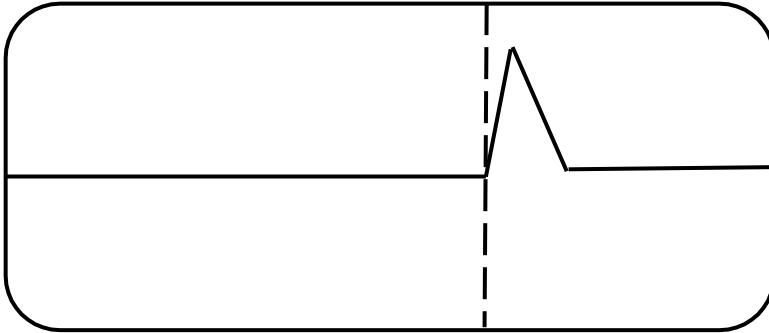

Fig. 2
- (1) Opens are caused when one or both. Conductors of a pair are disconnected or broken. The reflection is upward polarity pulse, Fig.2
- (2) Open sheaths are caused by a break in the cable sheath. To locate such faults, connect the line terminals to the sheath and to as many cable conductors as possible to reduce the clutter on the screen. This fault produces a fault pulse whose amplitude depends on the resistance of the break.